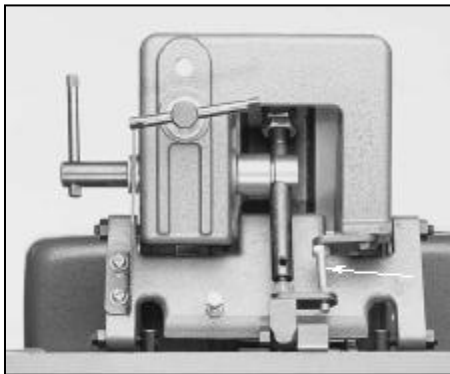

**Figure 9. Use of square to align fence.**
1. Place a square on the outfeed table fairly close to the cutterhead. See Figure 9.